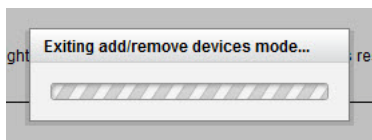

FIG. 34 Exiting Add/Remove Devices Mode
1. With the *Add Devices* page in Activation Mode, click the “Done” button. The NXB-CCG-K will start exiting all devices from activation (FIG. 34).